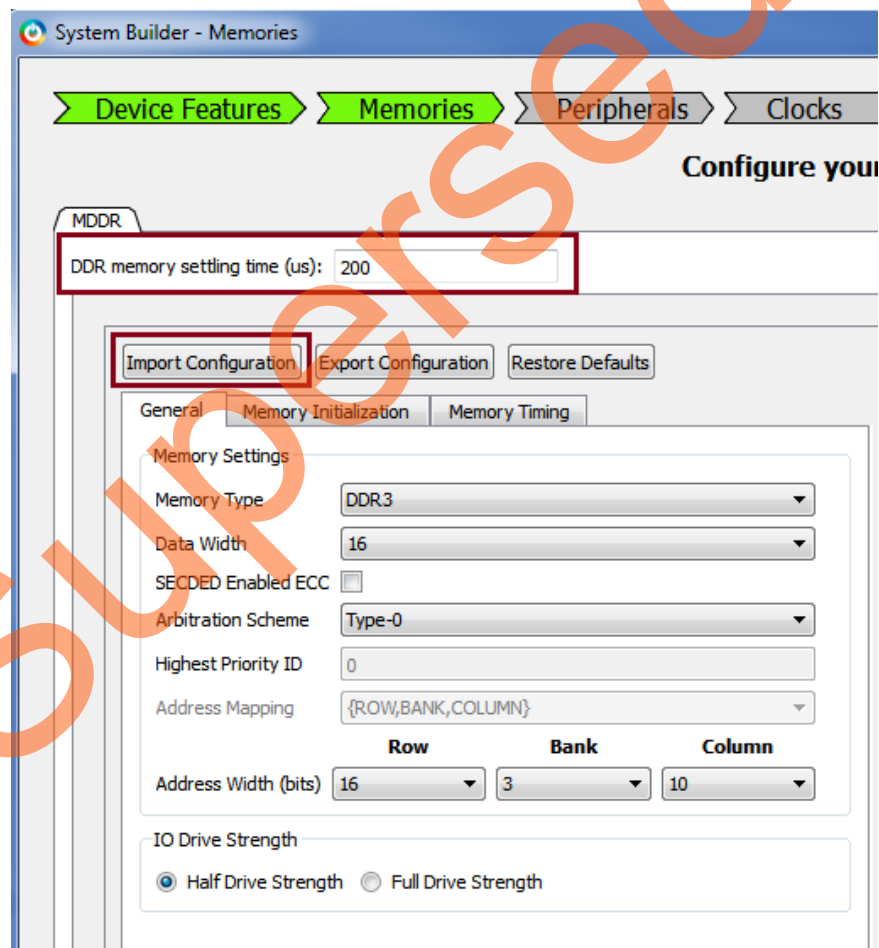

Figure 7. System Builder Configurator – Memory Page
10. Click **Next**, the **System Builder – Memories** page is displayed, as shown in Figure 7. The DDR3 external memory models are used in this tutorial.
- Click **Import Configuration**, as shown in Figure 7.